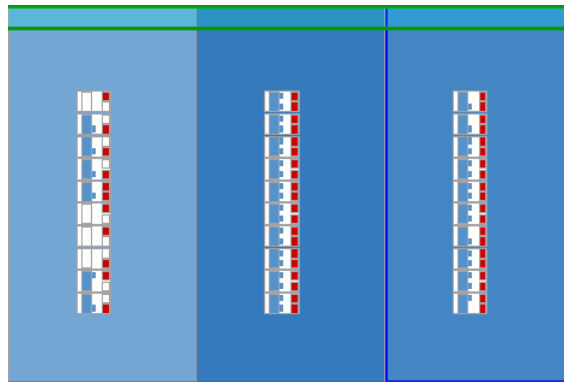

Figure 24: A portion of the expanded view.
6. A Zoom Tool, activated by the icon  in the left hand toolbar, can be used to enlarge parts of the image even more. You can click and drag a box over an area of the chip to quickly zoom into that part of the chip. Figure 24 shows a zoomed-in view of the floorplan that highlights the implemented circuit. By positioning the cursor on any logic element, the designer can see what part of the circuit is implemented in this resource. The chip planner tool has several icons that can be used to view aspects such as fan-in and fan-out of nodes, connecting paths between nodes, and so on. For more information on using this tool, refer to Help > Search > Contents > Achieving Timing Closure > Working With Assignments in the Chip Planner from the main Quartus® II display.